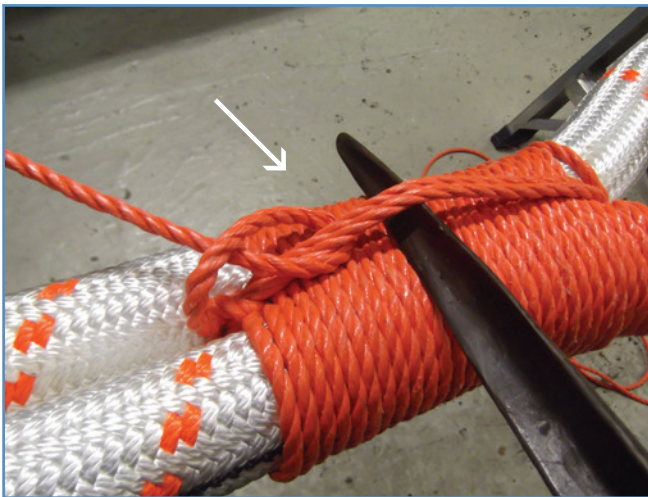
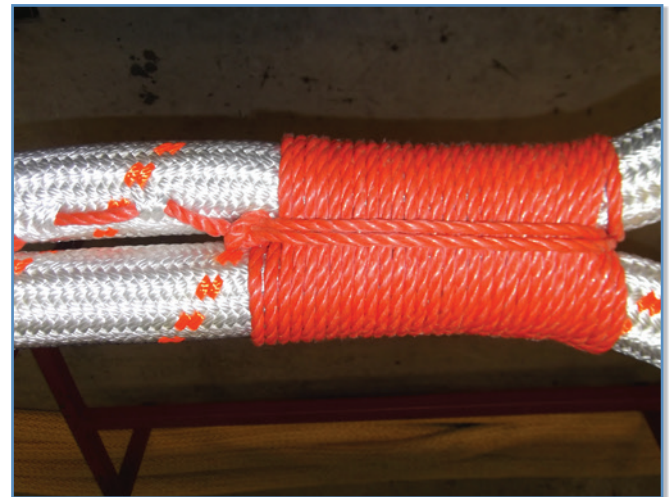

figure 15
figure 16
- Make a knot by going underneath the cross windings, from left to right (figure 15) pull the knot as far as possible between the legs (figure 16)
- Again make a knot by going underneath the cross windings, but now in the opposite direction, from right to left and work this knot also as far as possible between the legs (figure 16).